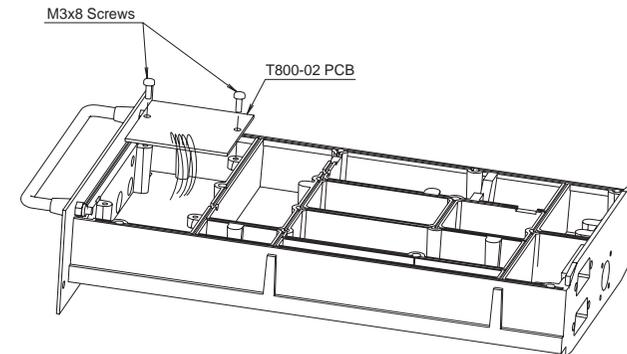

Figure 1 T800-02 Mounting Details
1. Mount the T800-02 PCB in the T800 receiver or transmitter as shown in Figure 1.